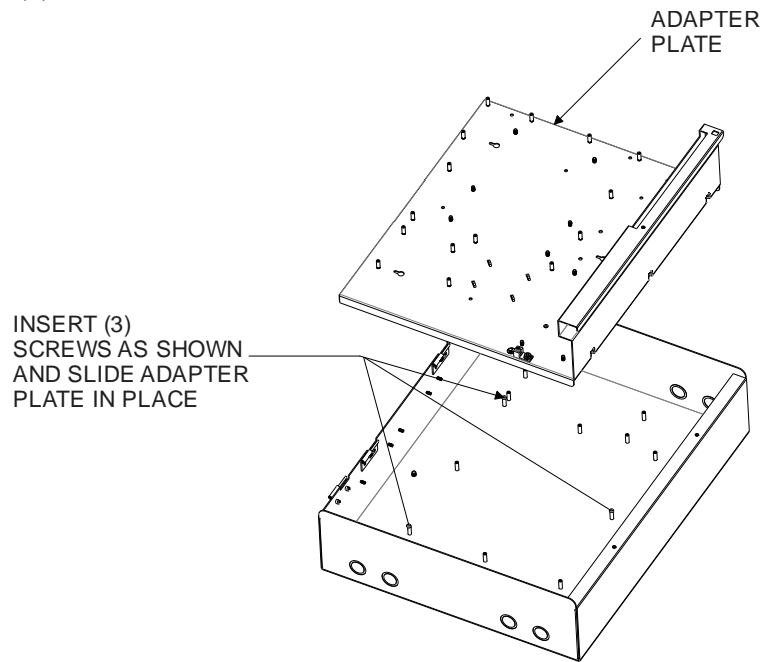

Figure 2: Mounting Adapter Plate inside the Back Box
3. Mount the (3) screws for the adapter plate as shown in Figure 2. Secure the adapter plate with the additional (7) screws.